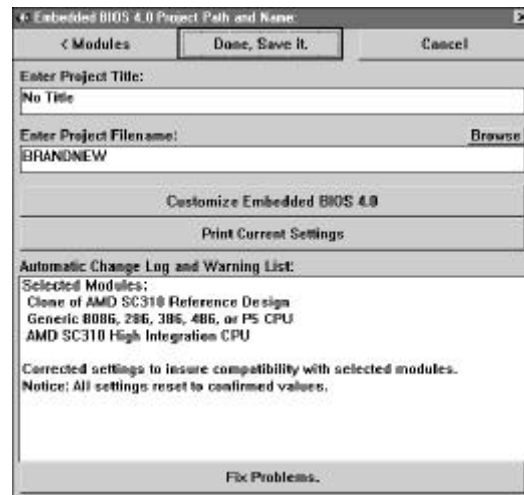

Figure 6.4. Main project control screen.
4. Specify a title and filename for the BIOS adaptation. The title of the BIOS will appear at the top of the screen when the completed BIOS boots on your target hardware. The file name is used to determine the name of the project directory where the .INC file and the final .ABS file will go as well as the name of those files. To preserve compatibility with DOS and with GSMMAKE, BIOSstart limits the project file name to 8 characters. The default settings as well as the screen that you set them on is displayed in Figure 6.4.
Clicking on the [**Previous Menu**] button will take you back to the last menu. If you move all of the top menus aside, until you see the bottom menu, you could click on [**Previous Menu**] and BIOSStart would take you back to a screen similar to the one in Figure 6.4.